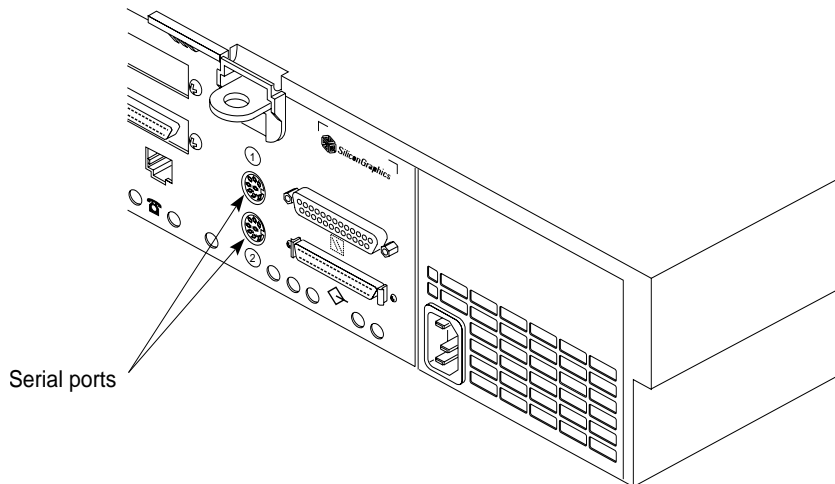

Figure 6-10 Serial Ports on the Rear of the Challenge S Server
2. Locate the serial ports on the back of the Challenge S server, as shown in Figure 6-10.
3. Attach the connector on the other end of the cable to the second serial connector on the server's I/O panel (see Figure 6-10).